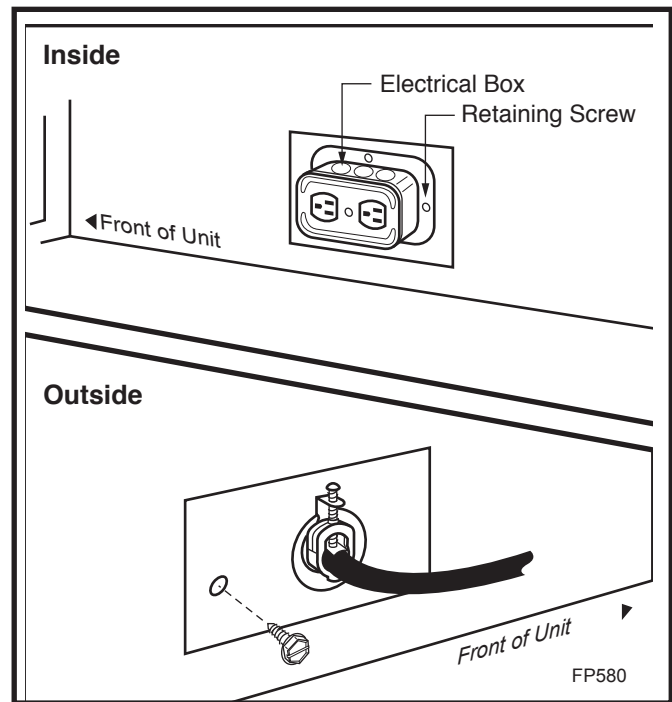

Fig. 8 EB-1 receptacle.
1. Unscrew the retaining screw from the EB-1 base plate (Fig. 8) and remove the EB-1 assembly from the fireplace.
4. Feed the supply line in from the outside through the cable clamp. (Fig. 8)